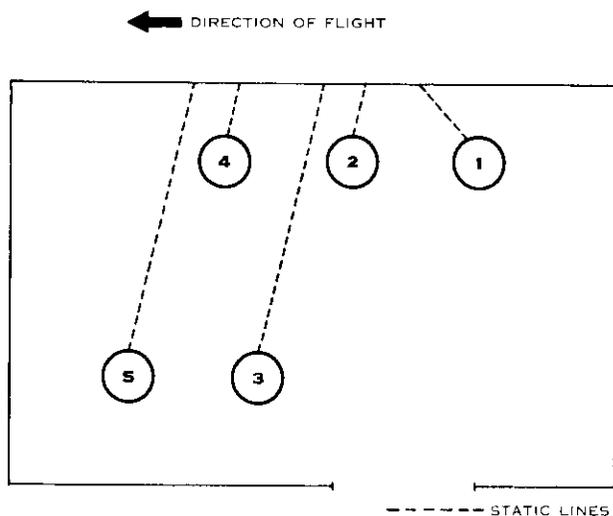

Figure 107. U-1A seating arrangement and static line routing.
a. Following the final briefing, the jumpmaster gives the command to enplane. With or without an air delivery container as part of the load, the parachutists enter the aircraft through the portside door and are seated and hooked up as shown in figure 107.